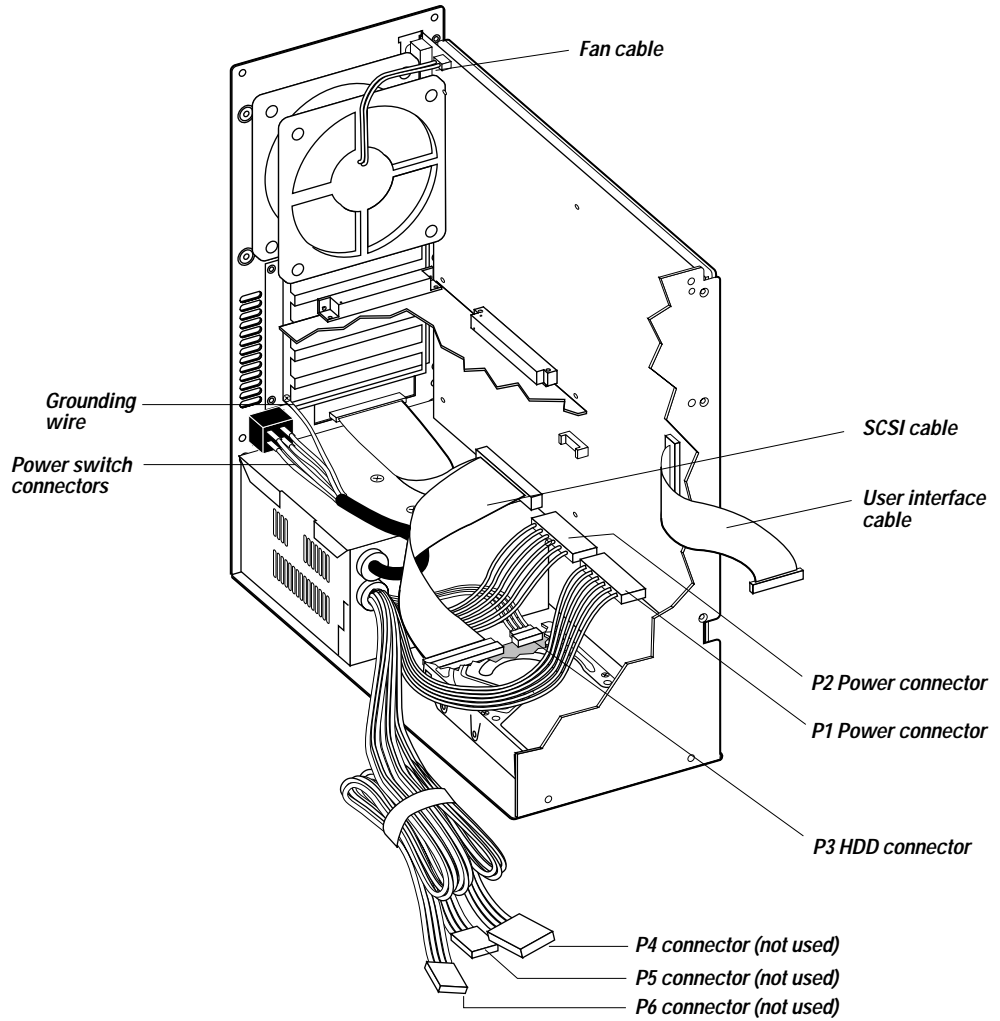

Figure 5-5 Cable connections in the Fiery XJ BP100
5. *Make sure that all Fiery XJ BP100 ribbon cables are seated on connectors. See Figure 5-5 on page 5-9 and Table 5-1 on page 5-10.*